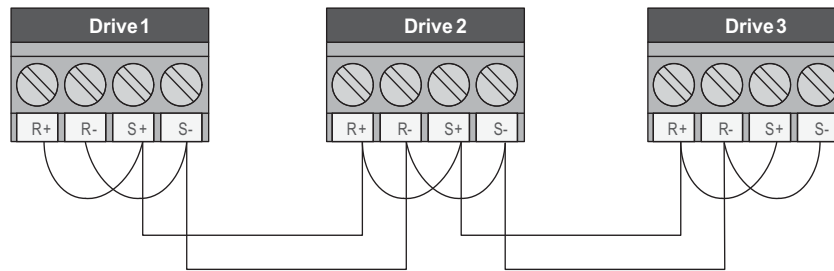

Figure G.12
2. Use shielded communication cable for steps 3 and 4 to connect the iQpump drives in a daisy chain manner according to **Figure G.12**.